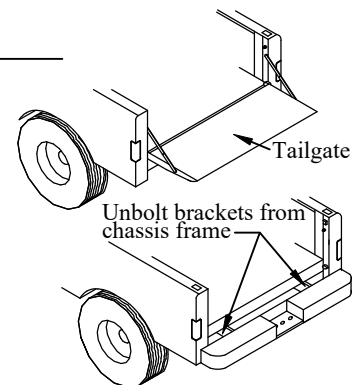

Figure 3: Tailgate and bumper removal.
1. **Remove** the tailgate. The tailgate hardware does not need to be removed (Figure 3).